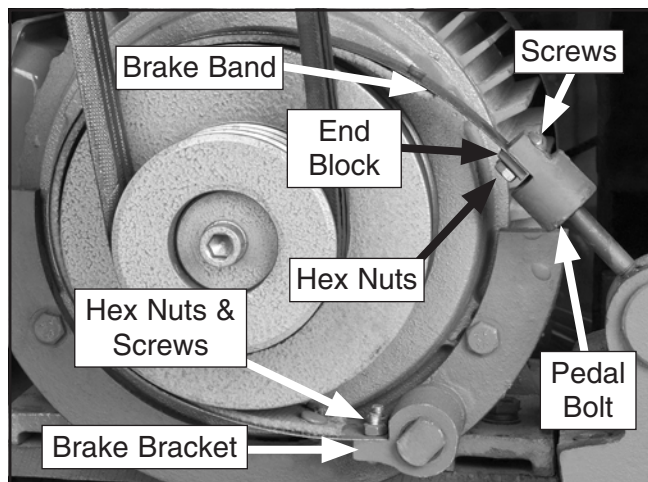

Figure 138. Brake replacement components.
3. Remove the hex nuts and screws that attach the brake band to the pedal bolt and end block shown in **Figure 138**.
4. Remove the hex nuts and screws that attach the lower part of the brake band to the brake bracket (see **Figure 138**), then remove the brake band.